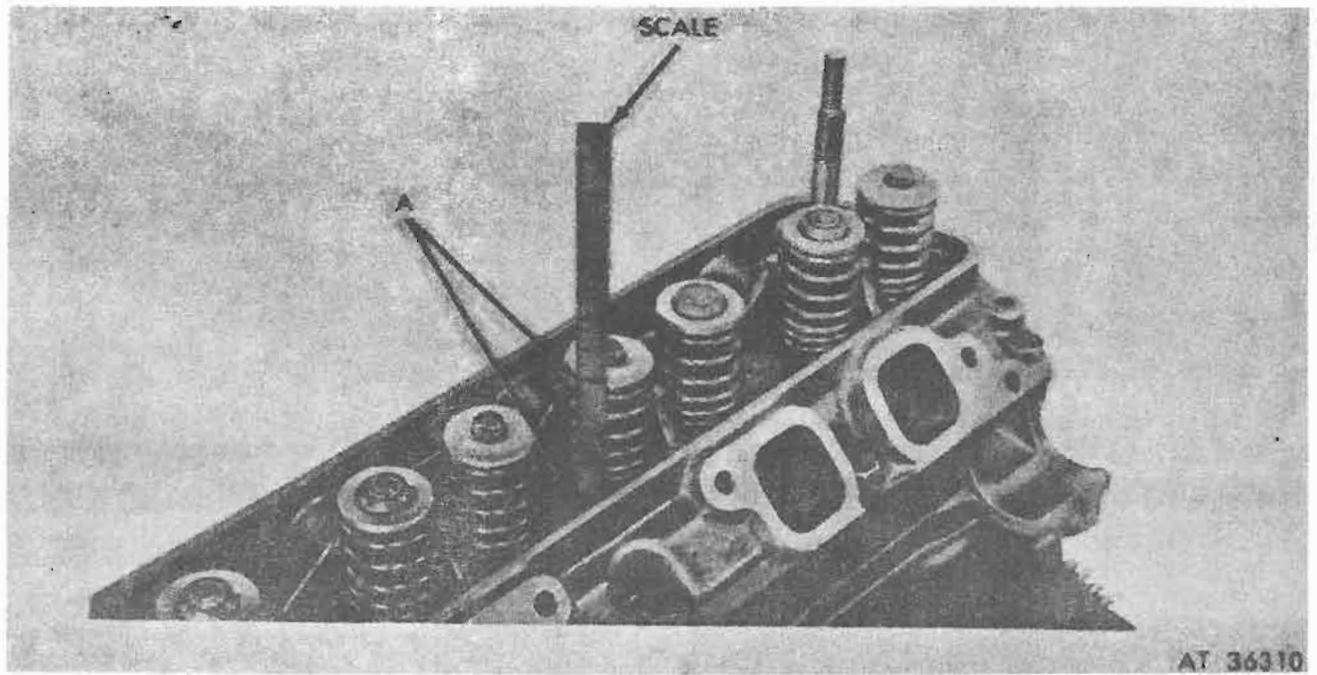

Figure 4-143. Valve spring assembled height.
g. Check Valve Spring Assembled Height. Measure the assembled height of the valve spring from the surface of the cylinder head spring pad to the underside of the spring retainer with a scale or suitable instrument (fig. 4-143). If the assembled height is greater than $1 \frac{13}{16}$ inches, install the necessary 0.030-inch-thick spacer(s) between the cylinder head spring pad and valve spring to bring the assembled height to the recommended dimension of $1 \frac{13}{16} \pm .03$ inches. Do not install spacers unless necessary. Use of spacers in excess of recommendations will result in overstressing the valve spring and cause excessive load loss and spring breakage.